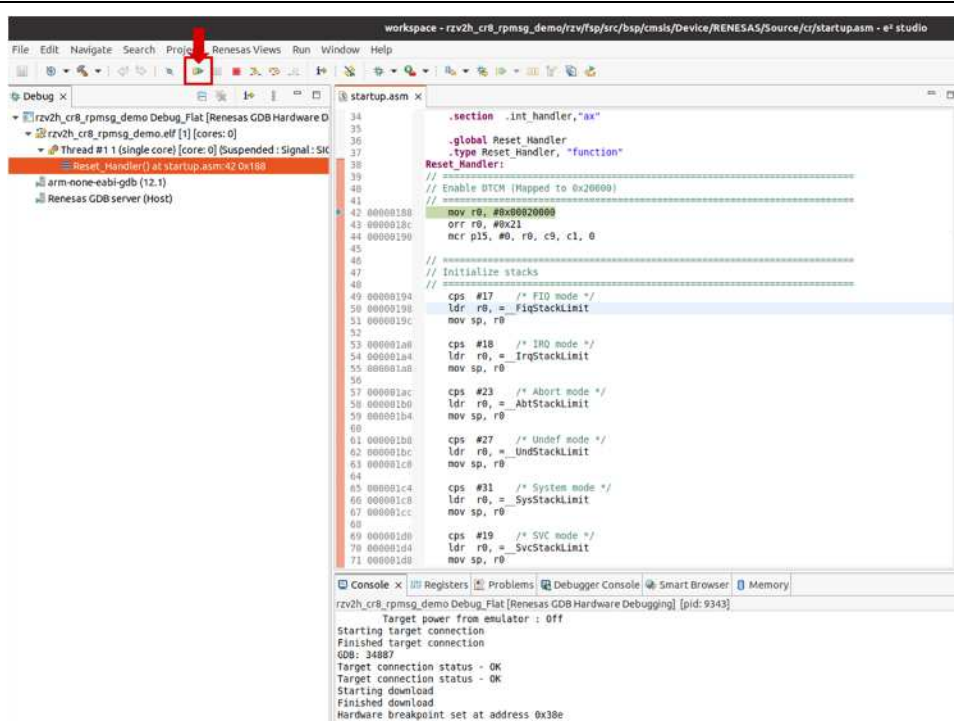

Figure 4-7. How to start to debug Sample Project (1)
- When **Debug Perspective** is opened, Program Counter (PC) should be located at the top of **Entry\_Function\_S** and **Reset\_Handler** for CM33 and CR8 sample project, respectively. Then, press the button shown in Figure 4-7.